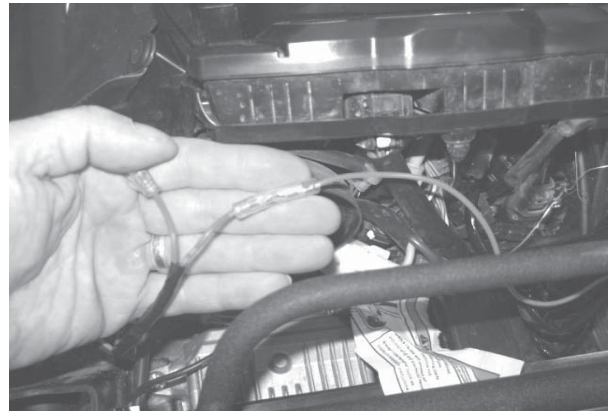

Figure 5
4. Route the rocker switch harness to an area on top of the battery and then route the red contactor power wire over to the right side of the compartment. Cut the wire to correct length and crimp a male bullet connector (not supplied) to the end of the wire and then plug it into the red female connector of the harness installed in step 2. (figure 5)